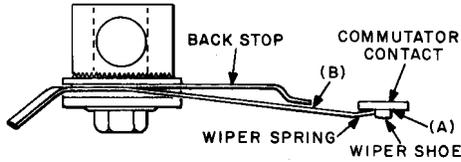

Fig. 6—Clearance Between Back Stop and Wiper Spring and Position of Wiper Shoe on Commutator Contact
(a) **Fig. 6(A):** With the switch shaft at vertical normal, the wiper shoe shall rest approximately flat against the associated commutator contact with its tip edge touching. In no case shall only the heel of the shoe touch the contact.
2.18 Clearance Between Back Stop and Wiper Spring: Fig. 6(B)—When a wiper spring is equipped with a back stop, there shall be clearance on all levels between the wiper and the end of the back stop with the shaft at rotary normal.